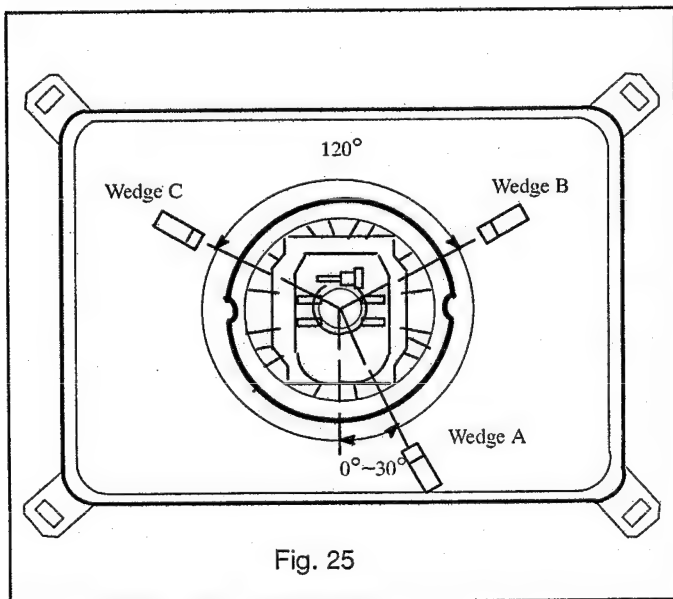

Fig. 25
7. Loosen the clamp screw for the deflection yoke A in Fig. 25 and move the deflection yoke as close to the purity magnet as possible.
11. Tighten the clamp screw A in Fig. 25.
7. Fix the deflection yoke by re-inserting the DY wedges. Refer to Fig. 25.
1. Wedge A shown in Fig. 25 should be fixed within a range of 0°~30 ° to the right of the vertical line as shown.